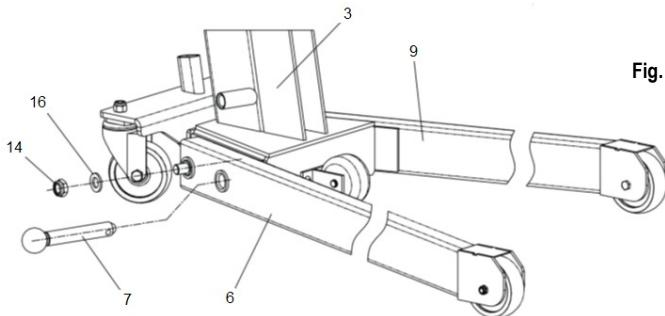

Fig. 3
2. Install the front legs (6 and 9 – Fig. 3) onto the frame (3 – Fig. 3), as shown in the figure; fix them by means of the nut (14 – Fig. 3) and the washer (16 – Fig. 3); finally, insert the front leg bolt (7 – Fig. 3).